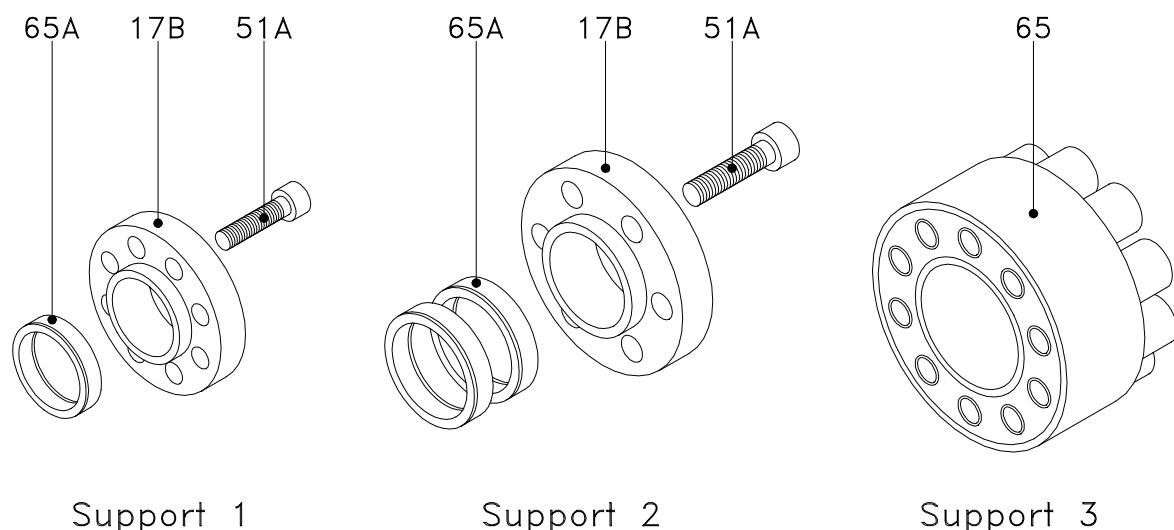

Figure 8.5: adjustable fastening mechanism
- Empty the oil from the support, remove the oil plug (85) and the bleed-emptying plug (87).
- Remove the Allen screws (51B) which have been used to attach the lantern (04) in the support (06). These screws are centred respectively by means of two centring pins (56A).
- Loosen the take up screws of the adjustable fastening mechanism for the driven gear (19A), see figure 8.5. In theory, the take up unit is self-releasing. It is now possible to rotate the driving shaft, whilst the driven shaft can be held stationary.